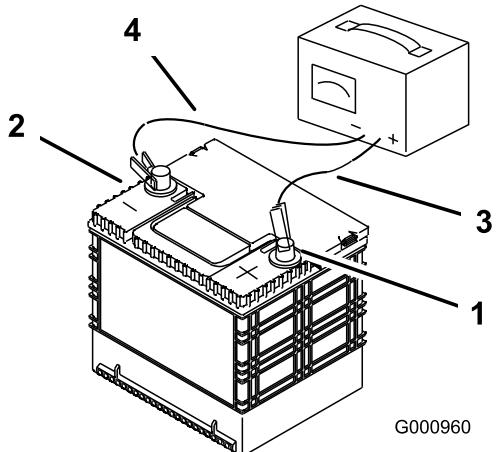

Figure 60
- When the battery is fully charged, unplug the charger from the electrical outlet, then disconnect the charger leads from the battery posts (Figure 60).